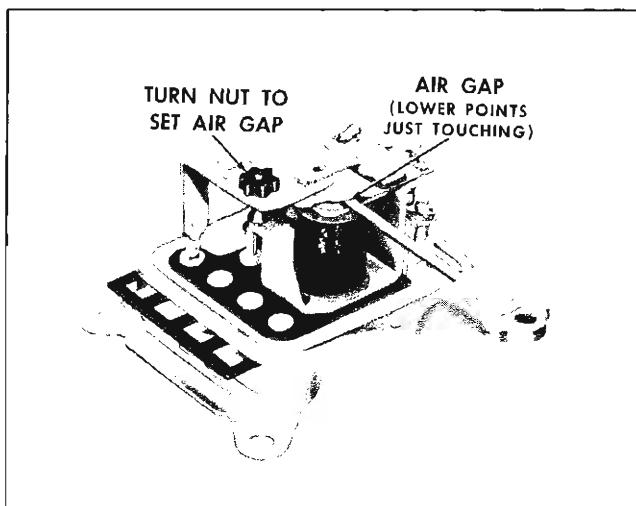

Fig. 11-33 Checking Air Gap
10. The difference in voltage between the operation of the upper set of contacts and the lower set is increased by slightly increasing the air gap between the armature and center of core and decreased by slightly decreasing the air gap (see Fig. 11-33) for changing the voltage regulator air gap. If it is found necessary to make this air gap adjustment, it will be necessary to recheck the voltage setting of both sets of contacts.
Air Gap: Measure the air gap with a feeler gauge placed between the armature and core when the lower contacts are touching as shown in Fig. 11-33. If necessary adjust to .057" by turning the nylon nut located on the contact support.